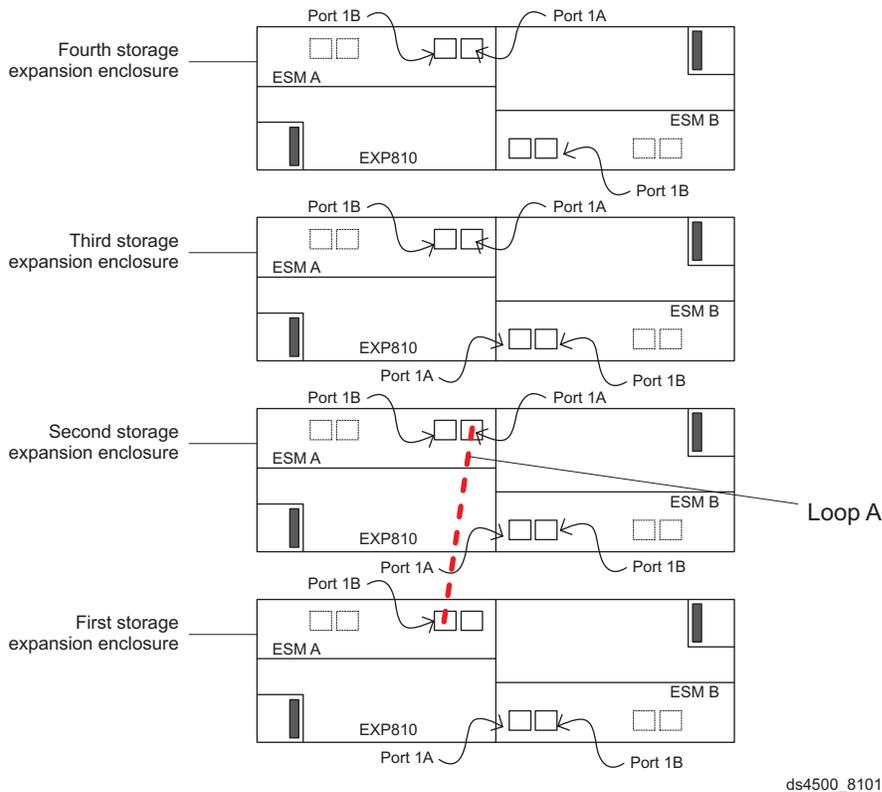

Figure 67. Connecting two EXP810 storage expansion enclosures into drive loop A
1. Connect the first two storage expansion enclosures to drive loop A, as shown in Figure 67.